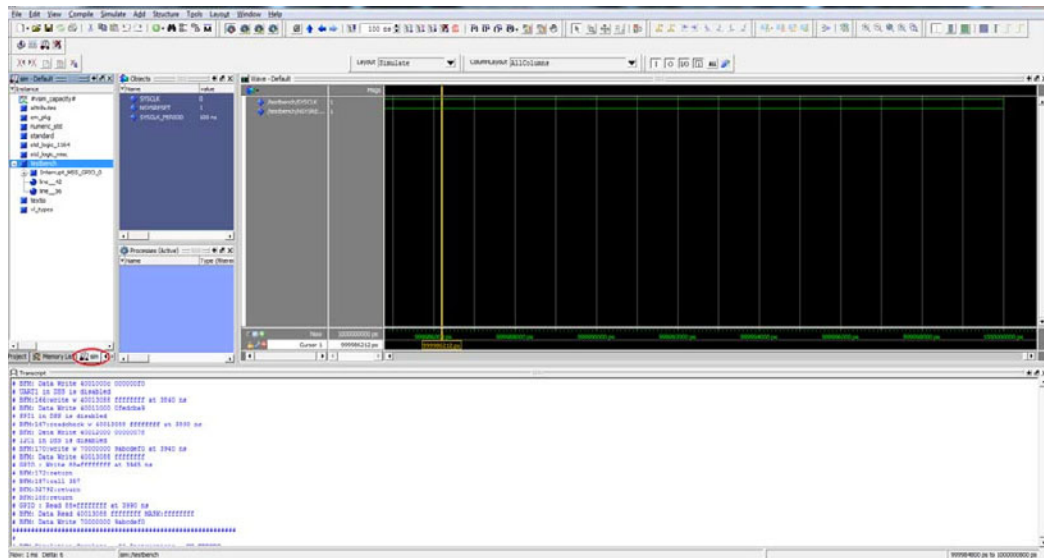
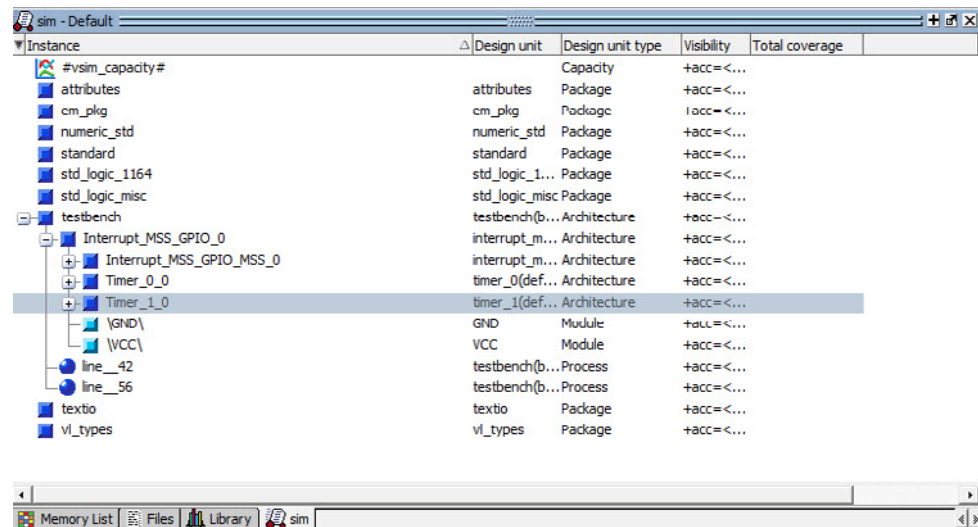

Figure 4-6 • ModelSim Wave Window
Figure 4-7 • Timer_1_0 Selected in the ModelSim sim Tab
ModelSim opens and automatically imports a **run.do** macro file that contains the links to the design files and gives simulation commands. The simulator compiles the source files and loads the design. The Wave window appears, as shown in Figure 4-6.
8. Click the ModelSim **sim** tab (circled in Figure 4-6). Expand the Design Hierarchy and select **Timer_1_0** (Figure 4-7).
11. Click the ModelSim **sim** tab (circled in Figure 4-6). Expand the Design Hierarchy and select **Timer_0_0**.